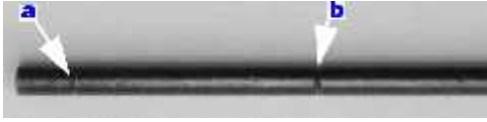

Fig.22
- Remove the dipstick and check the oil level is between the two points (“a” and “b”) (Fig.22).